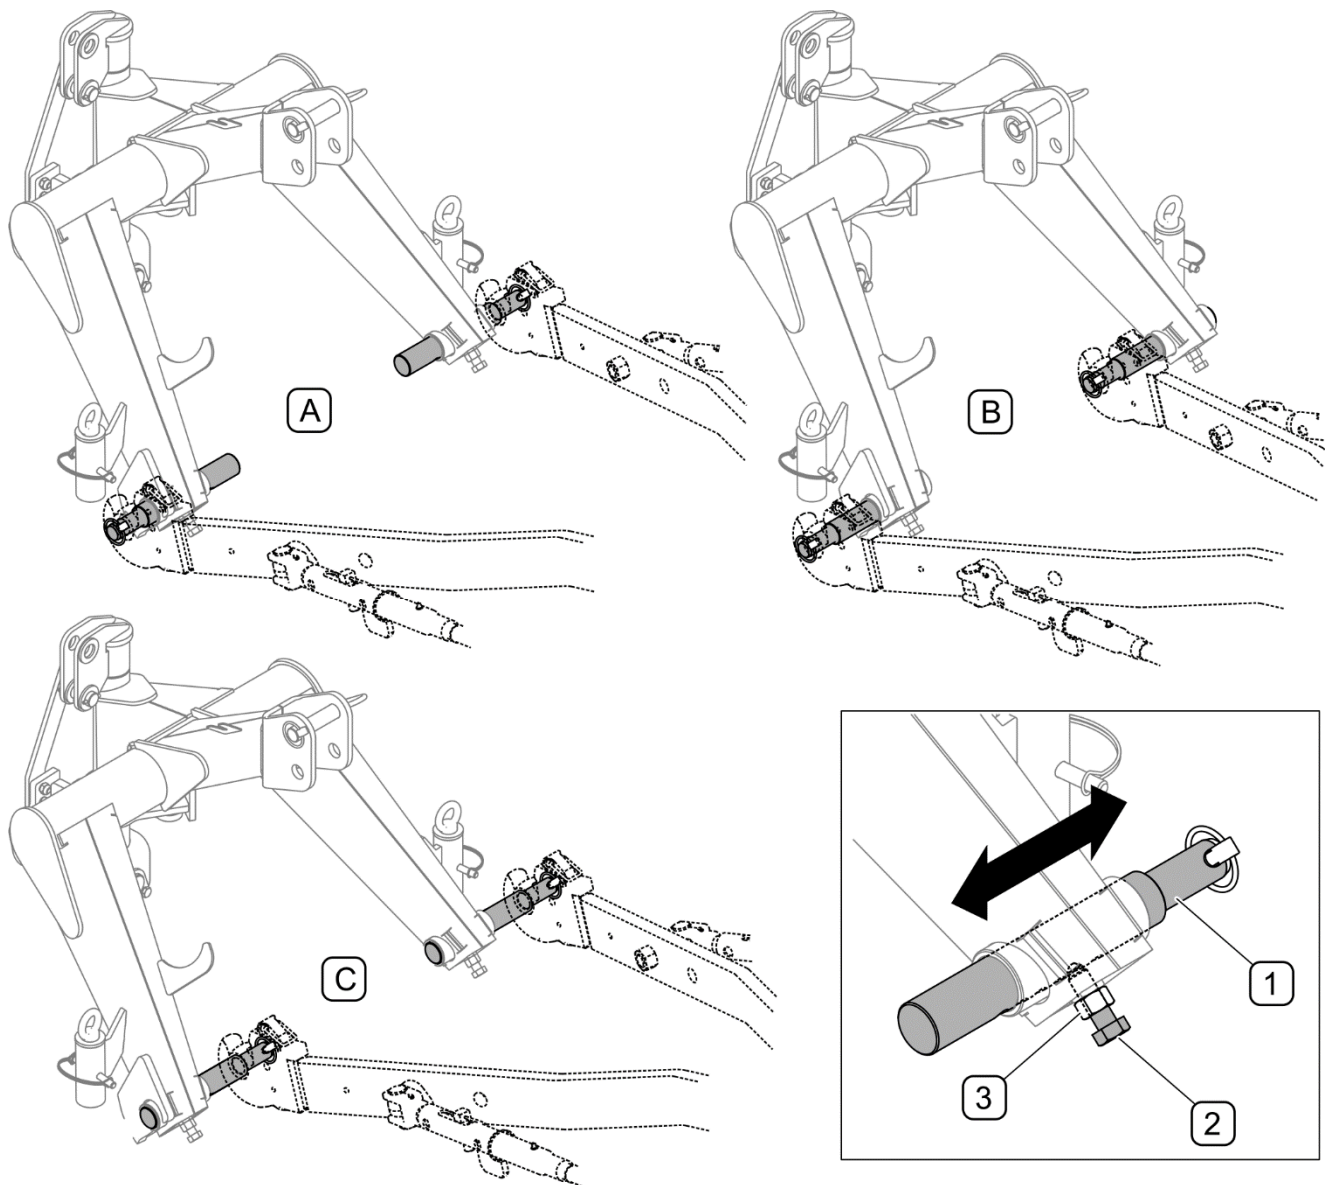

FIGURE 4.2 Adjustment of lower pins of the mower's linkage
(1) - lower linkage pins; (2) - setting screw; (3) - counter nut, (A), (B), (C) - setting pins in arm
Lower pins (1) of the mower linkage enable spacing adjustment (FIGURE 4.2). To change spacing of linkage pins:
- loosen counter nut (1),
- unscrew retaining bolt (2),
- move pin (1) to the right or the left to obtain the required spacing,
- you may also turn pins towards the inside or outside of frame (A), (B), (C) changing thus the lateral shift of mower in relation to tractor
- Block pin position with setting bolt (2) and counter nut (3)